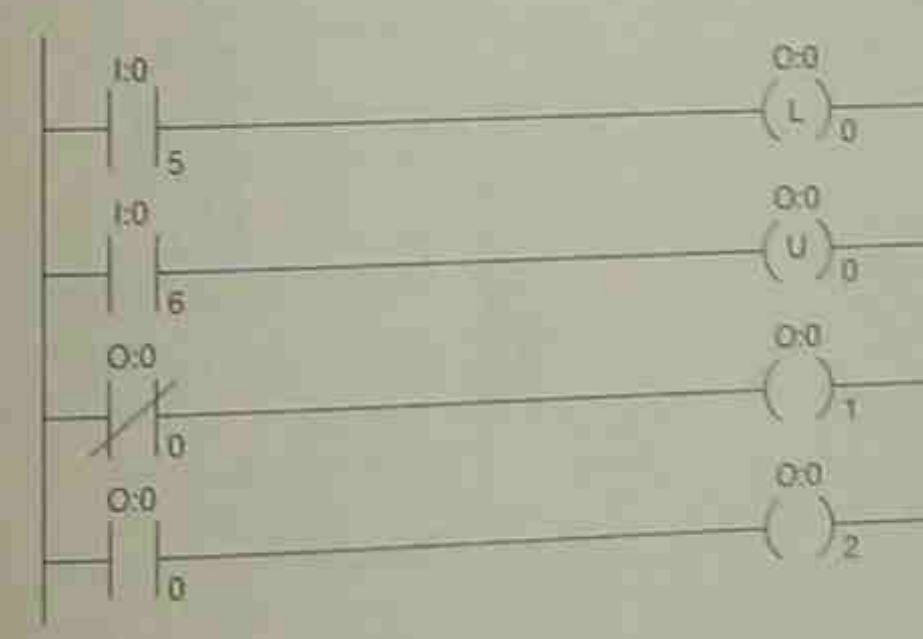

Figure 11-6 Programmed Latching Circuit
N.O. and N.C. contacts programmed after the latch and unlatch rungs, and given the same address as the latch and unlatch coils perform the same functions as N.O. and N.C. contacts of a standard real-world latching relay (Figure 11-6).